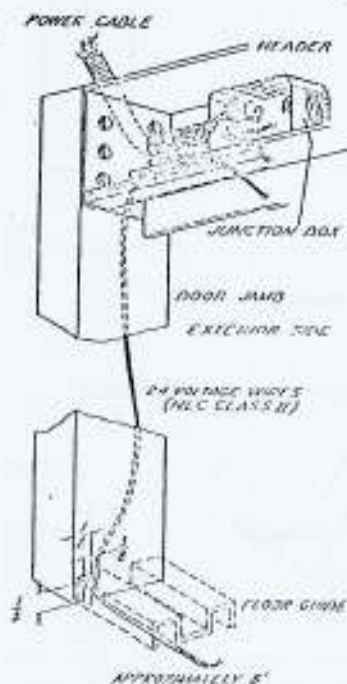

FIG. 4 Carpet switch lead wires in door jamb.
4. If carpets are to be installed cut a notch at the bottom end of the L.H. jamb, and install the low voltage mat wire as shown in FIG. 4. Disregard if other type activating device is used.